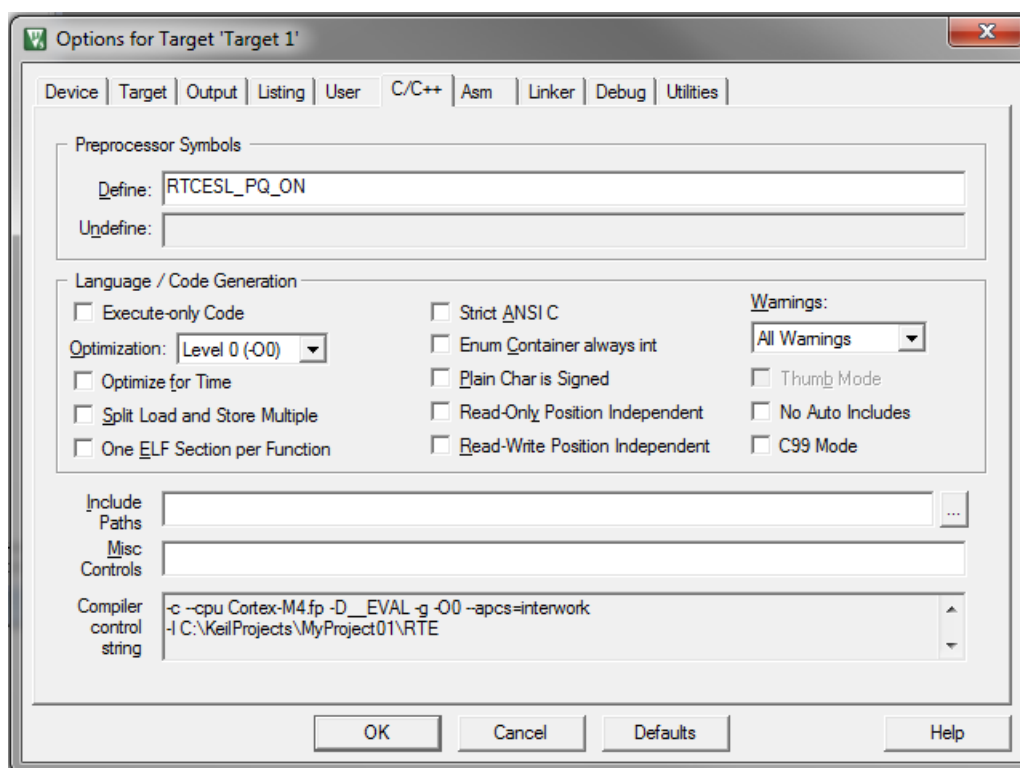

Figure 1-20. Preprocessor symbols
2. Select the C/C++ tab. See Figure 1-20.